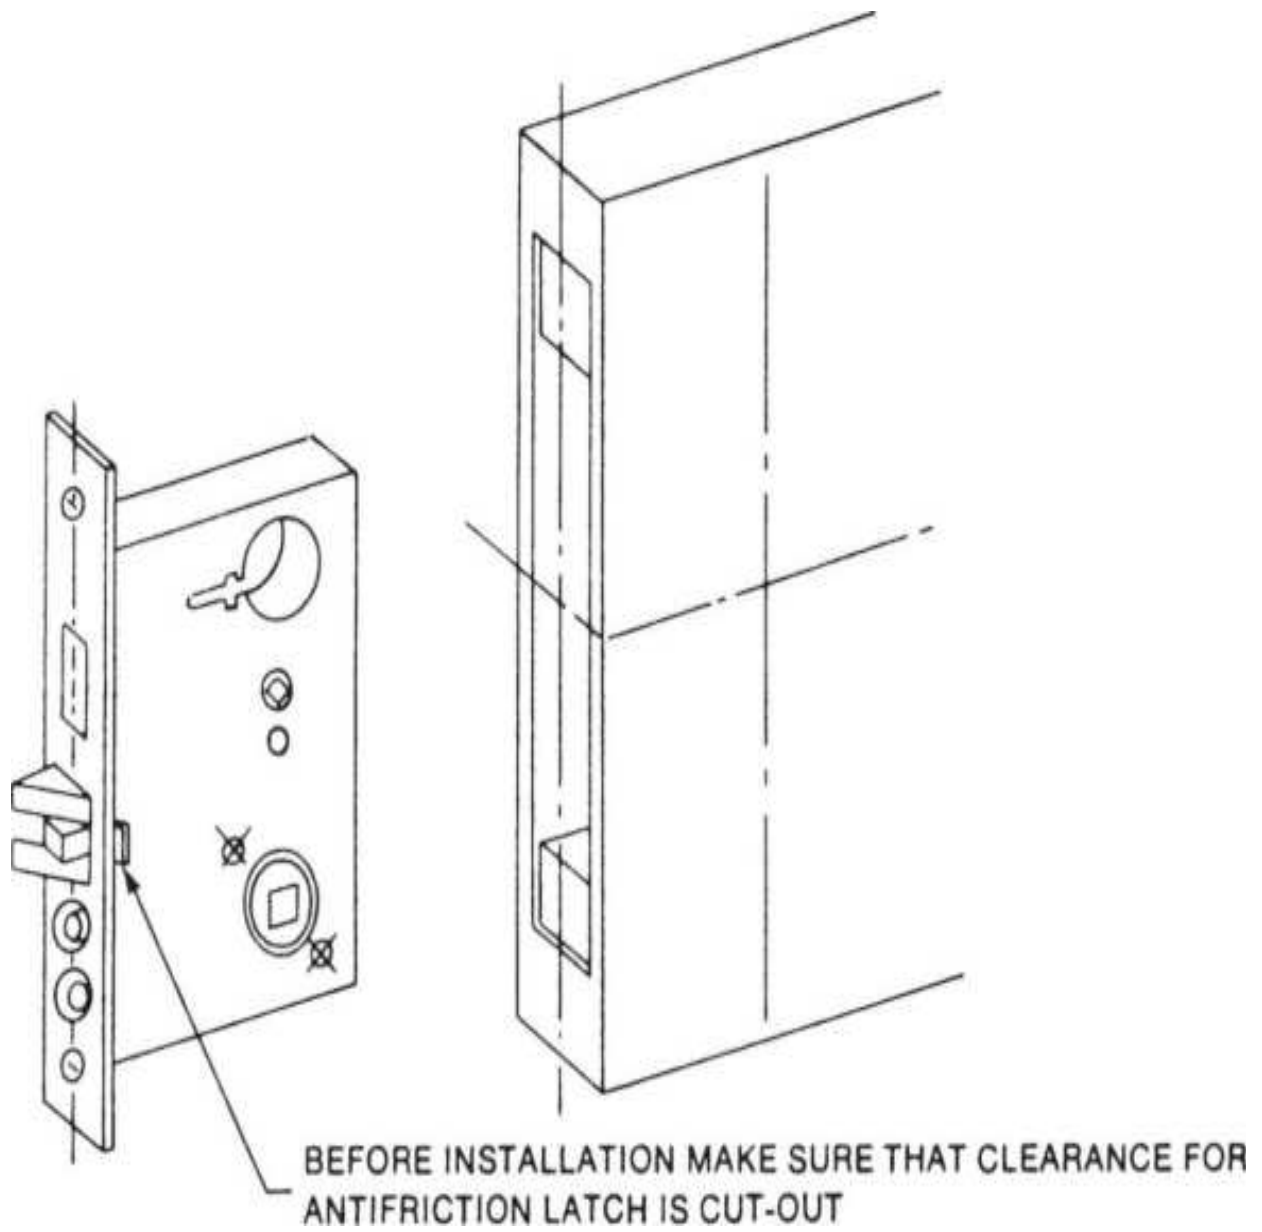
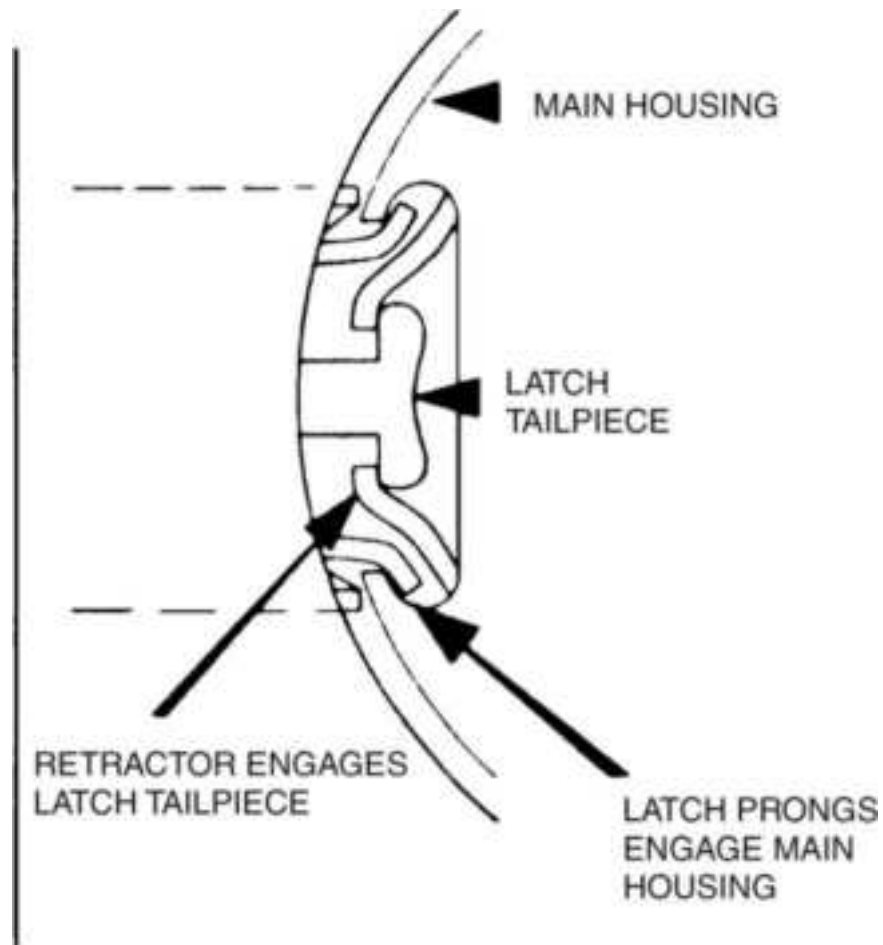

**Figure 19.47** Electrified key-in-knob lock installation, Step 5.
**Figure 19.48** Electrified key-in-knob lock installation, Step 5.
5. Next, install the main unit (Fig. 19.47 ). The main housing must engage with the latch prongs and retractor with the latch tailpiece as shown in Fig. 19.48 .